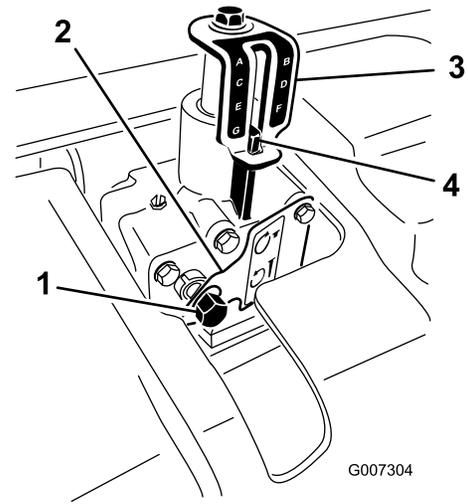

Figure 24
5. Rotate the depth adjuster clockwise to reduce the aeration depth or counterclockwise to increase the aeration depth. (Figure 24).
6. Rotate the depth adjuster input shaft until the desired depth is attained as shown on the depth indicator decal (Figure 24).
3. Insert a 9/16-inch socket with a ratchet onto the depth adjuster input shaft (Figure 24).